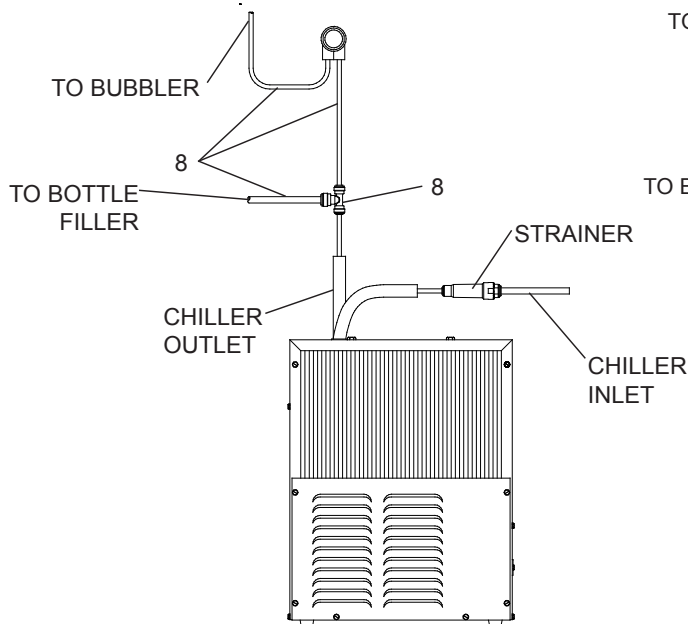

Figure 5 – EZWS-ERP8-RF Tube Routing
5. **(For EZWS-ERP8-RF)** Verify that a strainer is installed on the water supply line to the chiller (Fig. 5).